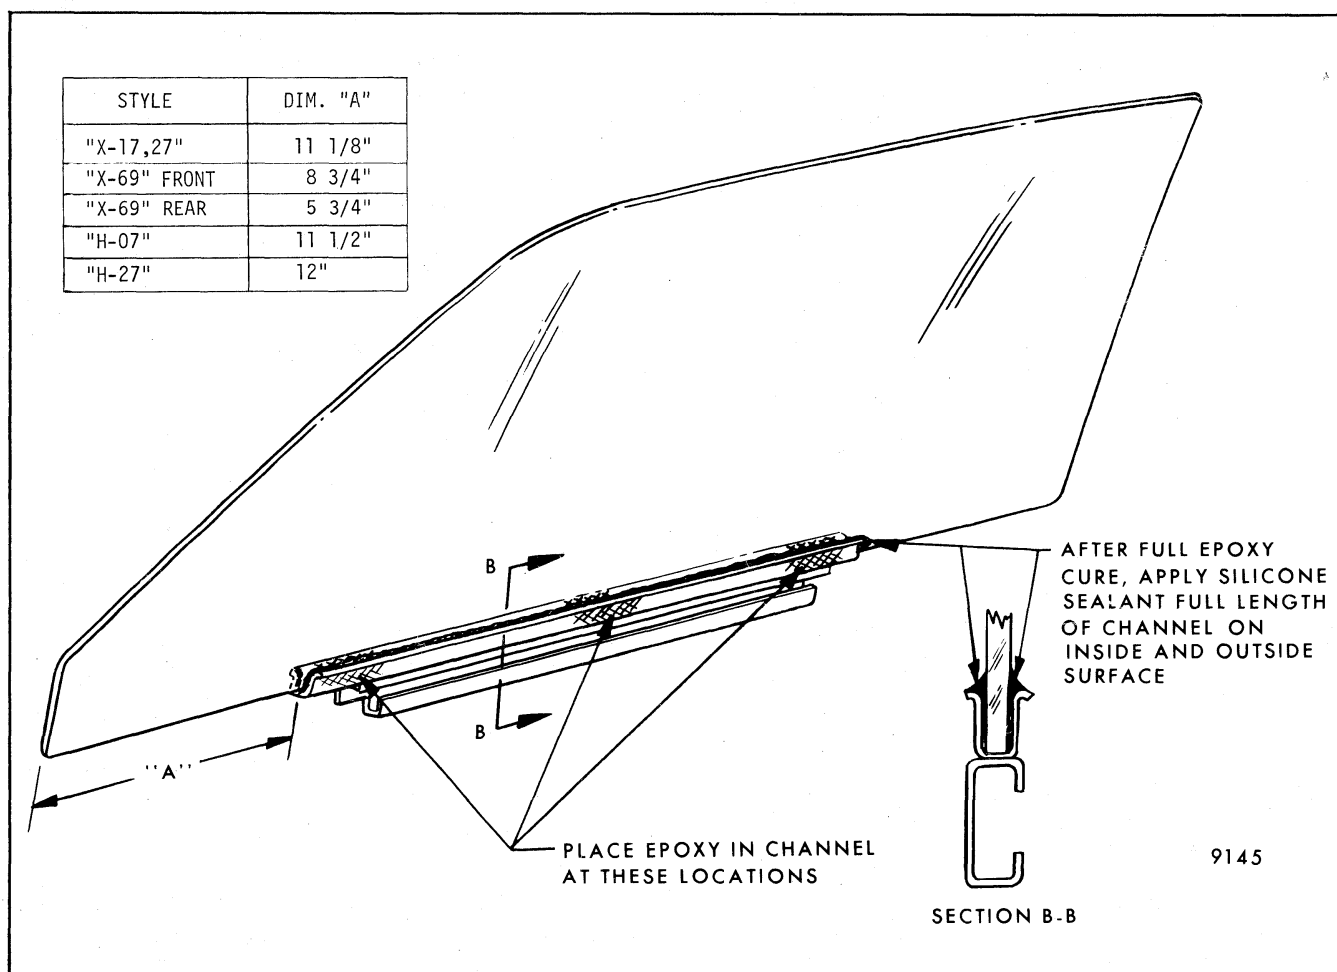

Fig. 5-47-Glass to Sash Channel Bonding
The door window lower sash channel cam (Fig. 5-47) is bonded to the window with urethane adhesive caulking compound. If glass or sash channel requires
5. If replacement glass is being installed, locate the front of sash channel to lower front edge of glass as shown in Figure 5-47.
6. To bond channel to glass, a two-part adhesive such as 3M Structural Adhesive No. 8101, Loctite "Clear" Epoxy, or Loctite Fast Cure Epoxy 45 or equivalent is required. Thoroughly mix approximately one and one-half tablespoons (two Loctite mixer cups) of adhesive per package instructions. Place adhesive into channel at three locations indicated in Fig. 5-47.
8. After full adhesive cure, flow a thin bead of silicone adhesive such as Dow Corning RTV 732 Silastic, 3M Super Silicone Part No. 8661 or equivalent the full length of channel surface to prevent water entrapment in channel (Fig. 5-47).